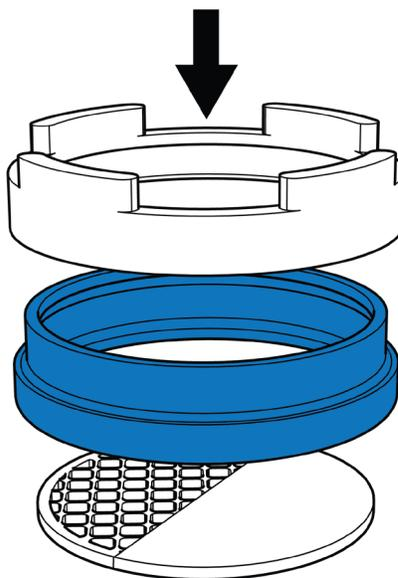

Figure 13 Place crown on top of blue gasket with mesh or porous plate
8. Place the crown on top of the blue gasket (Figure 13).